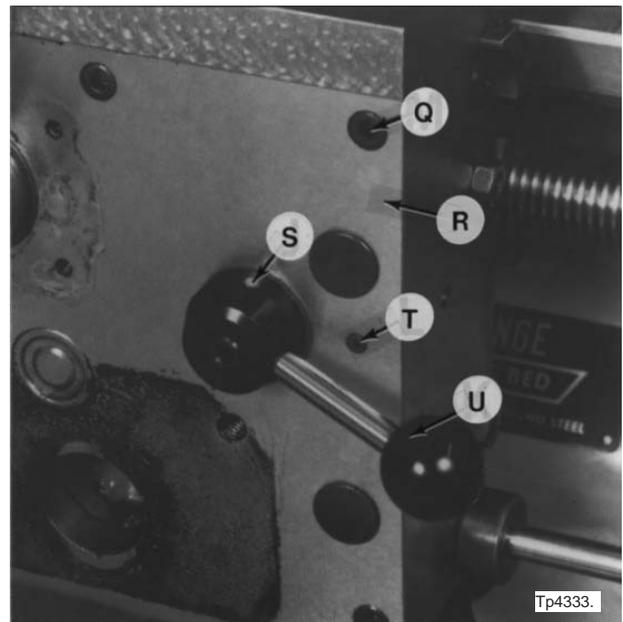

Figure 1.6 - Lead Screw Nut Handle
11. Remove taper pin "S", Figure 1.6, to remove lead screw nut handle "U" and the fiber washer under the lead screw nut handle
14. Apply Permatex® sealant to apron cover “R”, Figure 1.6, and replace using seven screws “Q”.